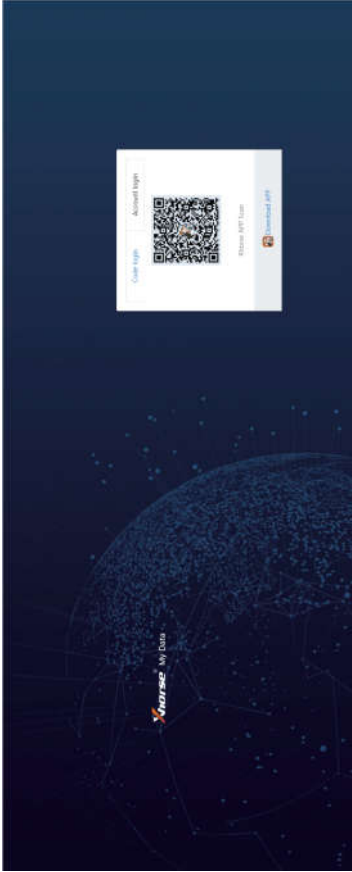

Fig. 9.3.2
- Click Scan to Log In and scan the QR code displayed on the webpage (Fig. 9.3.2).